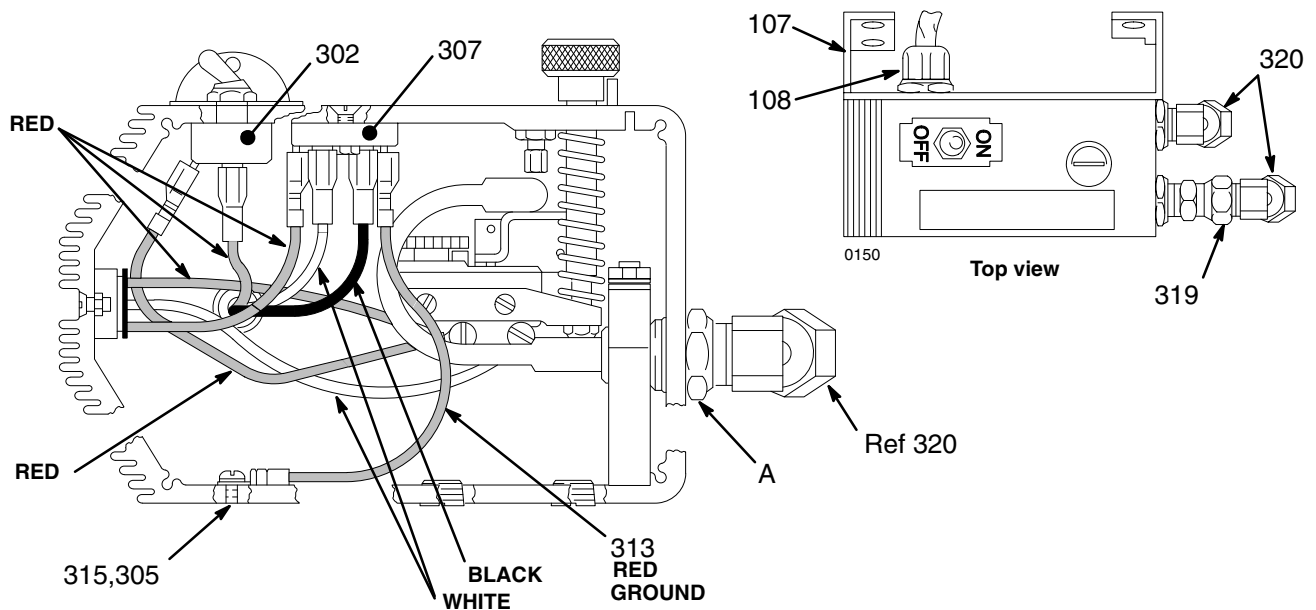

Fig. 22
5. Disconnect the black, red and white wires from the rectifier (307) and switch (302), which are sheathed with the conductor (314). See Fig. 22.
7. For the upright cart, remove the nipple (316) from the elbow (317). See Fig. 22.
8. Use a wrench to hold the hex of the adapters (A) while removing the elbows (317, or 320 and 319).